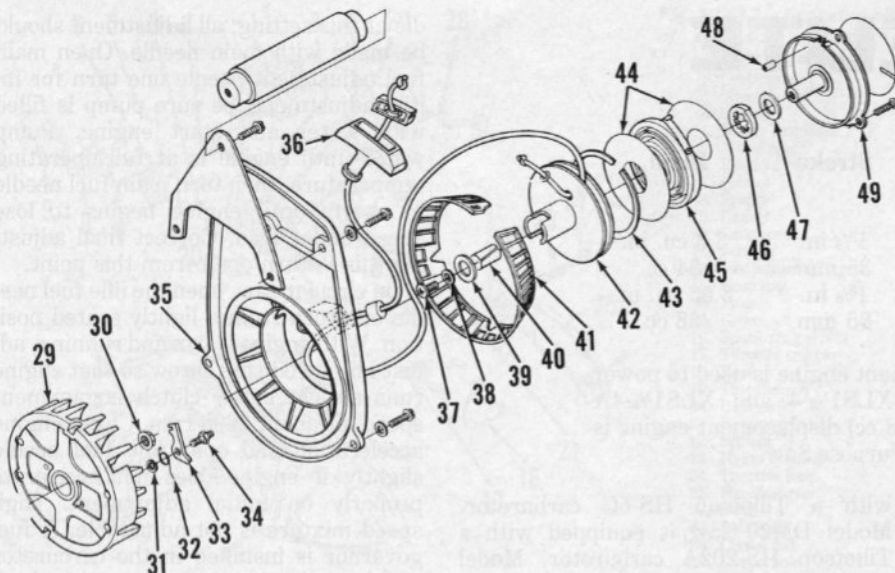

Fig. HL42-7 - Exploded view of rewind starter.
REWIND STARTER. Refer to Fig. HL42-7 for an exploded view of starter assembly. To disassemble starter, hold cover (49) and unscrew retaining screws. Allow cover to turn until spring tension is relieved and remove cover. Note: If outer hook of spring catches on
Do not oil spring. Install washer (47), inner spring shield (44), rewind spring (45) and spring lock (46) in cover with spring wound as shown in Fig. HL42-8. Install outer spring shield (44 - Fig. HL42-7) and snap ring (43). Insert bushing (40) in rope pulley (42). Slide pulley onto post in cover and check to be sure splines on pulley engage splines in spring lock. Install and tighten screw (37) to 45 in.-lbs. Wind rope around pulley in clockwise direction as viewed from screw end of pulley. Set cover in housing. Pull rope handle and then allow rope to rewind so that starter pawls will be forced open and pulley hub can slide between them into place. Turn cover clockwise 3 or 4 turns to preload rewind spring; never turn cover more than 5 turns against spring tension. Snap plastic screen into place and install cover screws. Check starter operation.